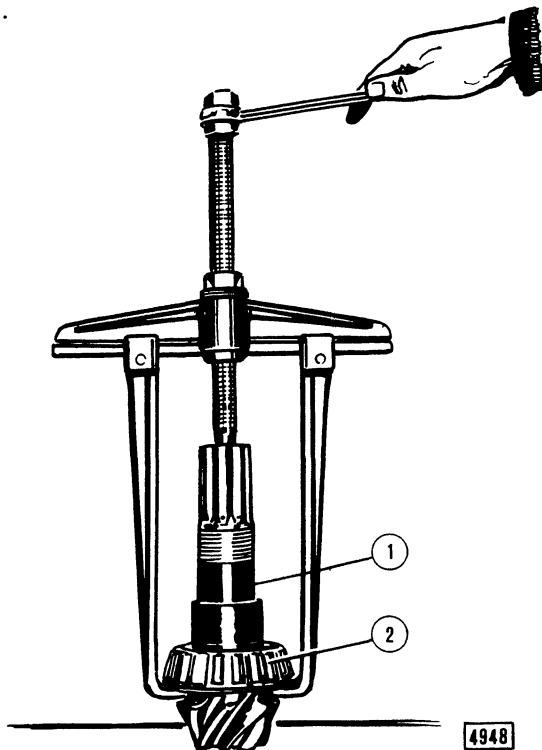

Fig. 8.37 - Removal of drive pinion bearing inner ring
- Using a puller, remove the bearing inner ring (Fig. 8.37).